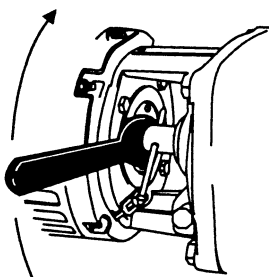

Fig. 2
3. Turn the Adjusting Screw with a Spanner Wrench (**Do not use a screw driver or punch**) to advance the impeller toward the raceway and at the same time rotate the motor shaft with a nail through the hole provided for this purpose. The CT and CS pumps have left hand threaded adjusting screws. Turn adjusting screw clockwise from front of pump (Fig. 2) to move impeller closer to raceway.